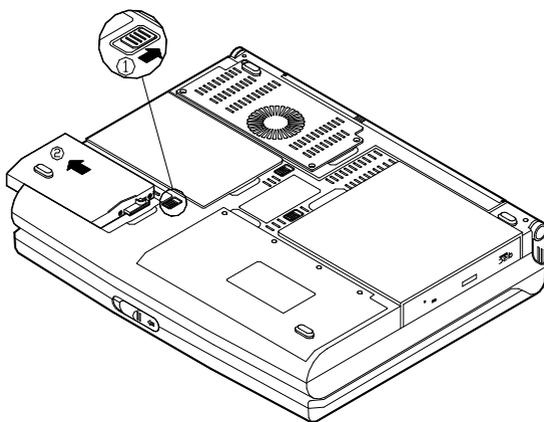

Figure 2-8
4. Press the latch in the direction indicated and take the hard disk drive out of the computer (Figure 2-8).